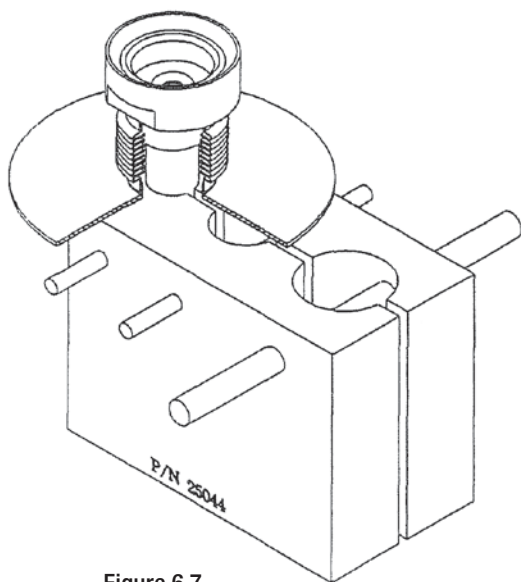

Figure 6.7
12. To separate the **Disc Holder** [6] from the **Stem Retainer** [14], first thread the lock screw up into the **Stem Retainer** [14] using the fixture shown in **Figure 6.7** to hold the assembly.